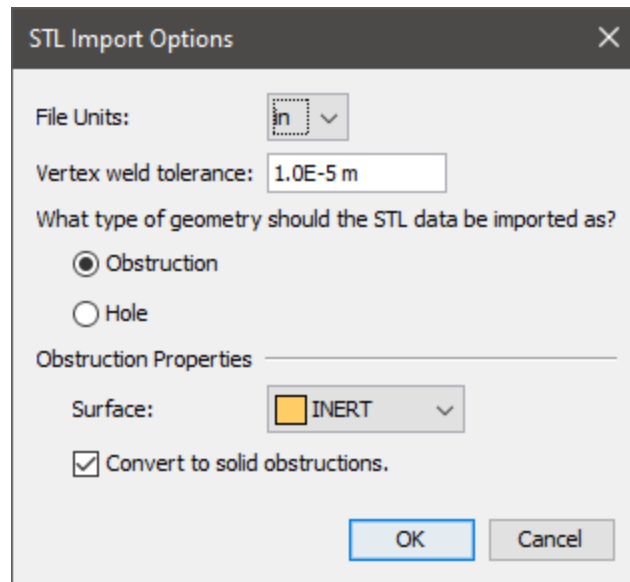

Figure 27. STL Import Options dialog
3. Enter the import options in the **STL Import Options** dialog as shown in Figure 27.
In Figure 27, the following options can be specified: